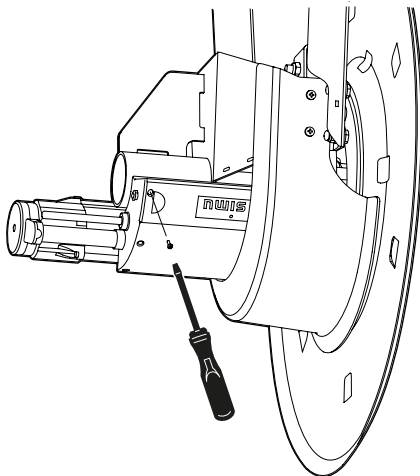

Fig. 12
1. Remove the screws and open the cover; see **Fig. 12**.